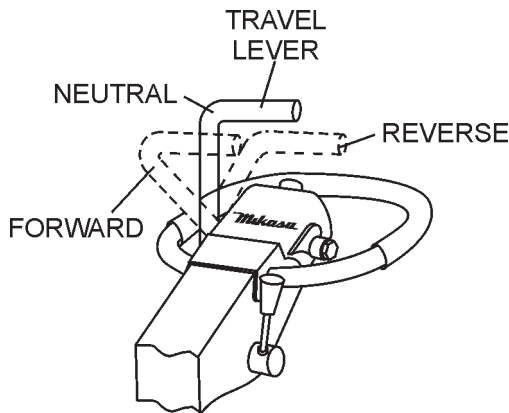

Figure 22. Travel Lever
- To make the compactor move in the forward direction push the travel lever (Figure 22) forward.
- To make the compactor move in the reverse direction pull the travel lever (Figure 22) backwards.